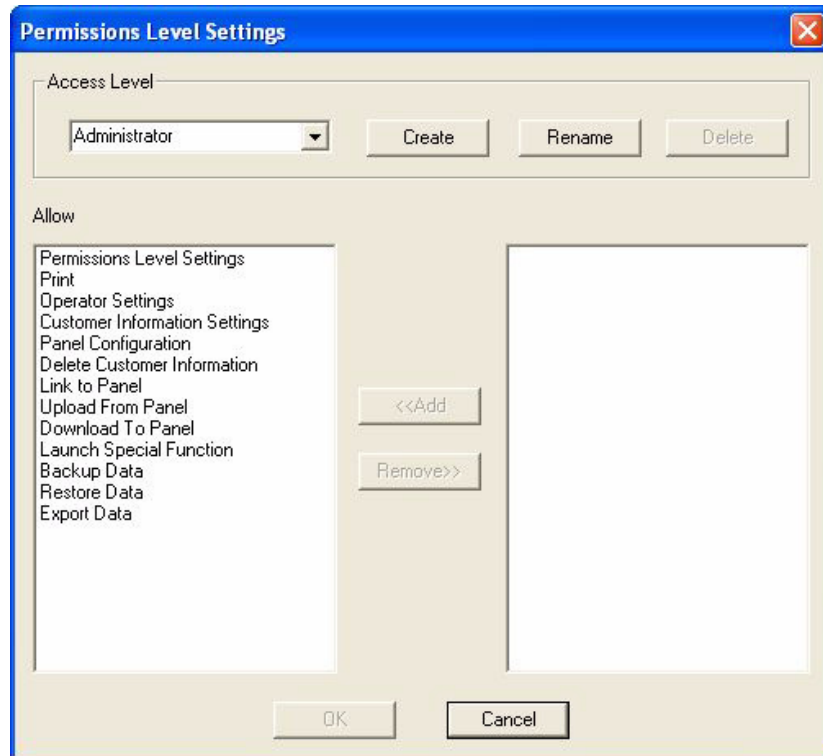

Figure 3.4 Permissions Level Setting Dialog
The **Permissions Level Settings** dialog opens. Refer to *Figure 3.4, Page 15*.
4. In the **Allow** fields, select a permission and click **Add** to add the permission to the access level. Repeat this step for all other desired permissions. Refer to *Figure 3.4, Page 15*.